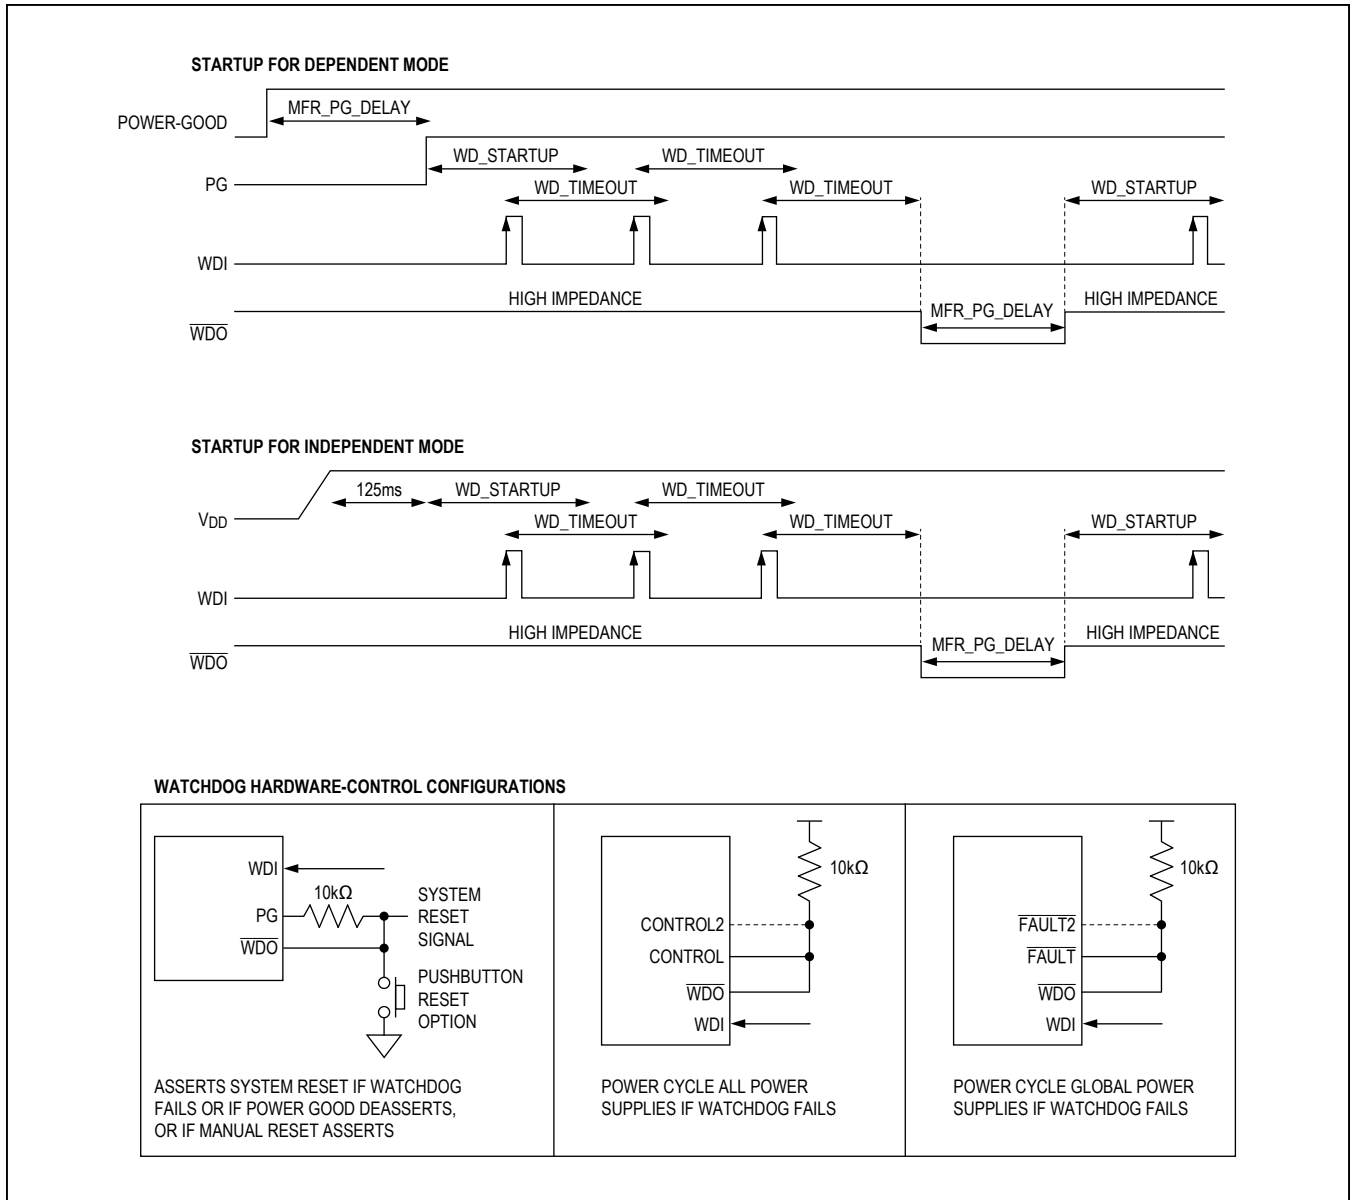

Figure 4. External Watchdog Operation
In both dependent and independent modes, the WDO pin can also be configured to act as a manual-reset (MR) input. When the WD\_WDO\_MR bit is set in MFR\_WATCHDOG\_CONFIG, the  $\overline{\text{WDO}}$  pin becomes a digital input/output pin that detects a falling edge, debounces the falling edge for a 200ms period, and then once the manual reset has been qualified, the device asserts the  $\overline{\text{WDO}}$  output low for the time configured in MFR\_PG\_DELAY before releasing the pin and restarting the watchdog function. To prevent glitches from occurring in the reset signal, the device seizes the reset signal as soon as it qualifies the manual reset and holds the  $\overline{\text{WDO}}$  output low for the MFR\_PG\_DELAY time. The MFR\_PG\_DELAY time should be configured for a time longer than the manual-reset pulse length. When the time configured in MFR\_PG\_DELAY expires, the device releases the reset signal and restarts the watchdog as long as the pin is high. If the pin is low when the  $\overline{\text{WDO}}$  pin is released, the device waits for the pin to go high (debounced by 20ms) before restarting the watchdog function. See Figure 4.